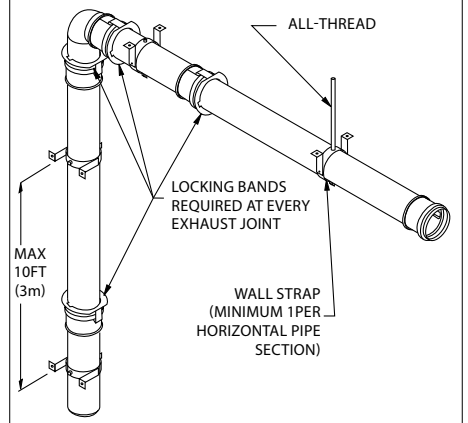

Figure 8
- Every horizontal section must be supported. (**Fig.8**)
- Vertical installations must be supported every 10 feet (3 meters) or less. (**Fig.8**)
- Elbows and Tees are sufficiently supported when a bracket is fixed at the female end of the connected straight section. (**Fig.8**)